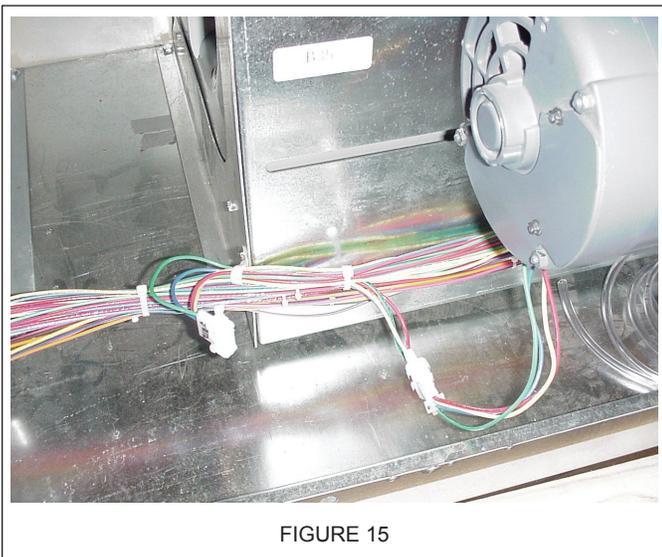

FIGURE 15
4. Unplug each motor harness from wiring cap and connect to properly marked alternate cap. **See Figure 15. Refer to wiring diagrams.**